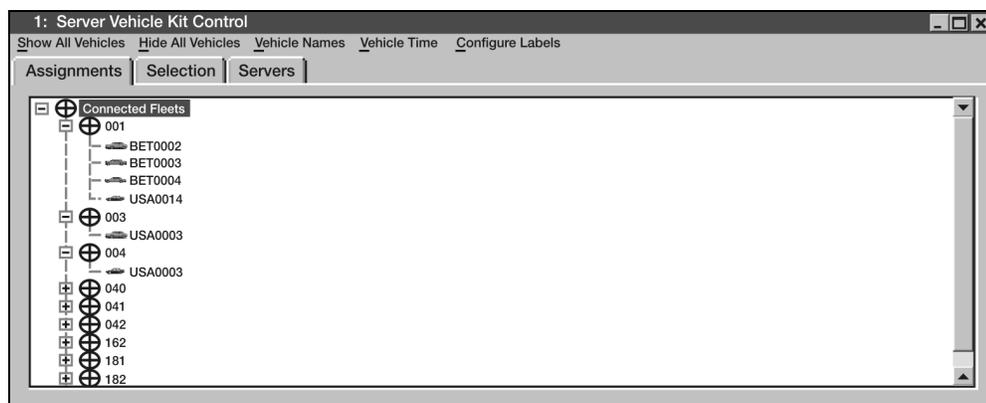

Figure 3-49. Centering the Map on a Vehicle
- (i) Center the map on a vehicle (see Figure 3-49).